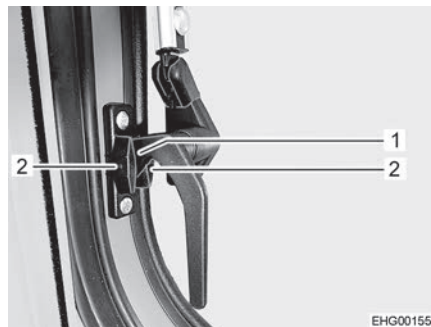

Fig. 33 Catch lever, on the side ("continuous ventilation" position)
- Turn the catch levers on the side a quarter turn downwards. While doing so, drive locking catch (Fig. 33,1) in between the two halves of the locking block.